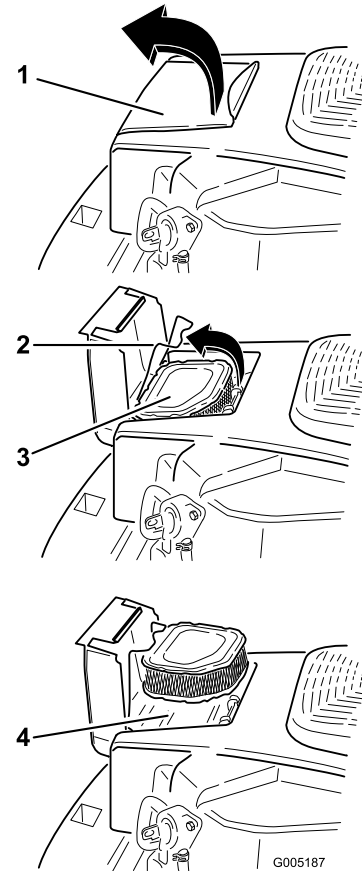

Figure 28
1. Open the air cleaner cover door on the blower housing to access the air cleaner element (Figure 28).
2. Unhook the latch and remove the air cleaner element (Figure 28).